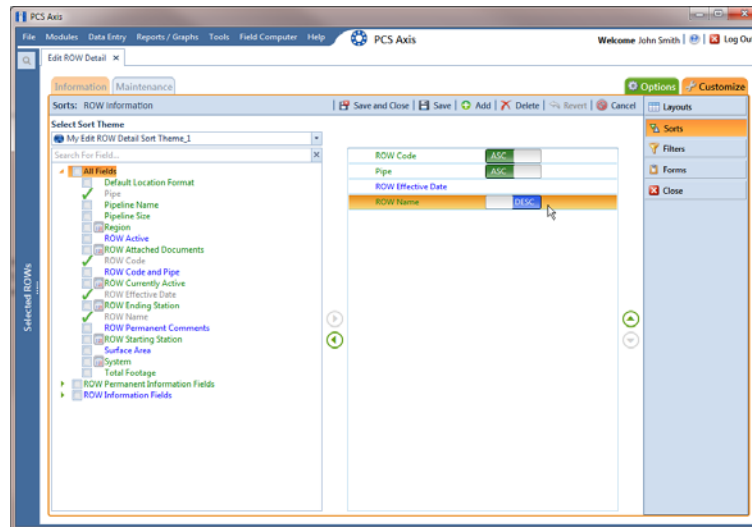

Figure 4-38. Sorts
- 8 Click  **OK** to save changes and return to the *Sorts* page (Figure 4-38, page 164).